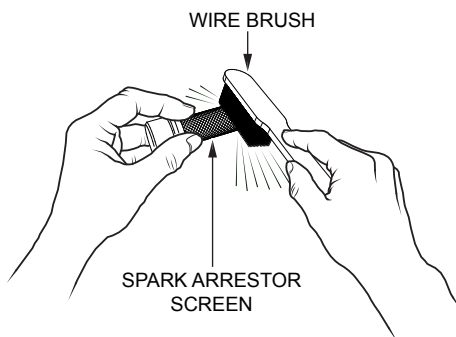

Figure 37. Cleaning The Spark Arrester
2. Remove the 5 mm screw (4) from the muffler protector, then remove the muffler protector.
3. Carefully remove carbon deposits from the spark arrester screen (Figure 37) with a wire brush